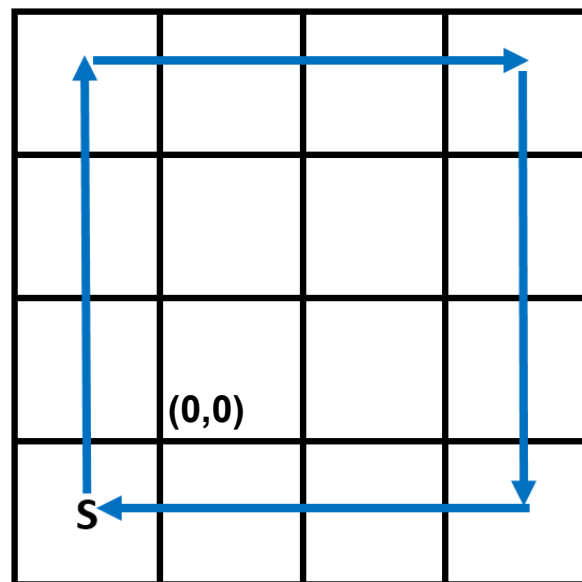

Figure 3. 3-by-3 tile trajectory using `SquareDriver`.
- The zero values for (X, Y) , i.e. $(0,0)$, must respect the convention shown in Figure 3.
The TA will ask you to run your robot off the center of a tile, as shown by **S** in Figure 3. The robot should then follow the 3-by-3 tile square trajectory using `SquareDriver`. The robot should work using odometry correction. Throughout the demo, the TA will observe the reported (**X**, **Y**, **θ**) values on the robot's LCD screen. When the robot stops at the final position (**X_F**, **Y_F**) near **S**, the final readings on the LCD screen (**X**, **Y**, **θ**) are used to evaluate the odometers accuracy and calculate the **error distance ε** as: